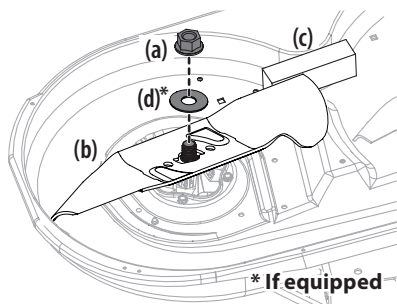

Figure 47
2. Use a 15/16" wrench to hold the hex nut on top of the spindle assembly when loosening the hex nut (a) and washer (d)* securing the blade (b). A block of wood (c) may be placed between the deck housing and the cutting edge of the blade (b) to help in breaking loose the hex nut (a) and washer (d)* securing the blade. See Figure 47.
- When re-installing blades, be sure of the following (see Figure 47 on page 32):